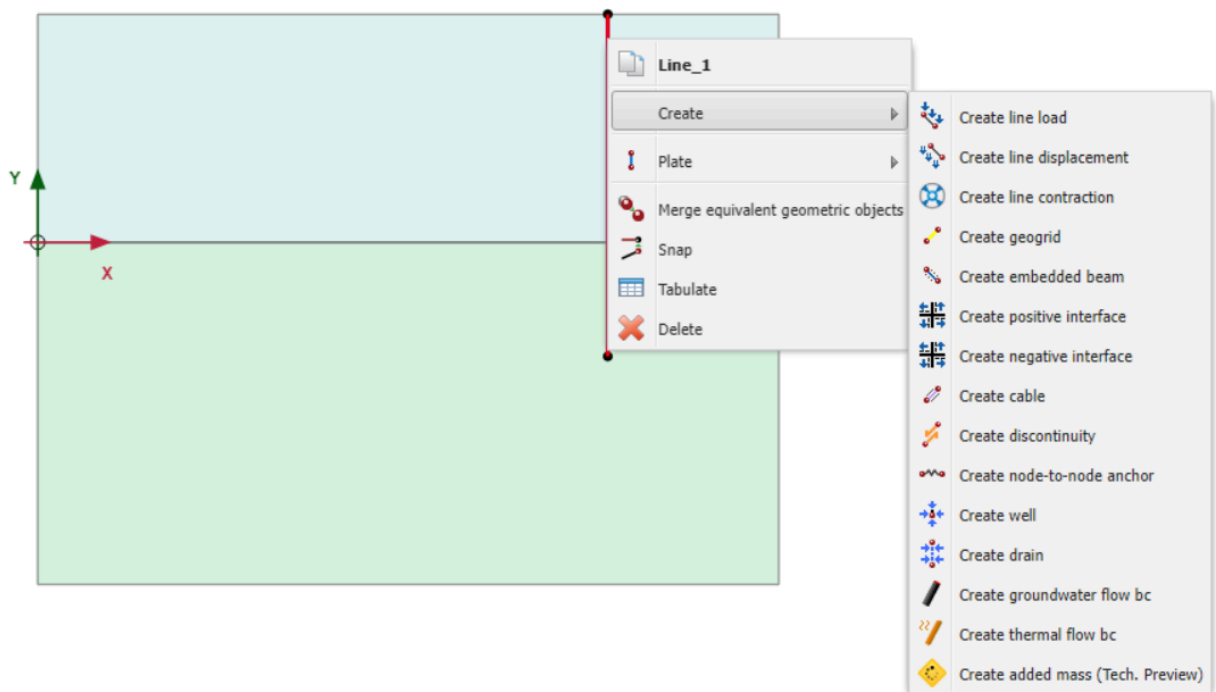

Figure 3–3: Create positive interface
- 3 In the same way assign a negative interface as well as shown in Figure 3–3 \(p. 58\).